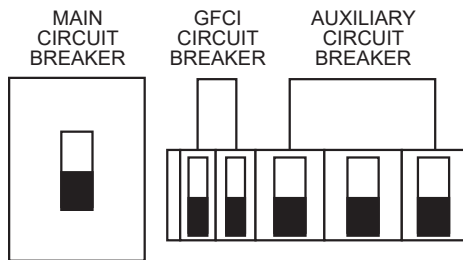

Figure 41. Main, Auxiliary And GFCI Circuit Breakers (OFF)
1. Place the **main, auxiliary, and GFCI** circuit breakers (Figure 41) in the **OFF** position prior to starting the engine.